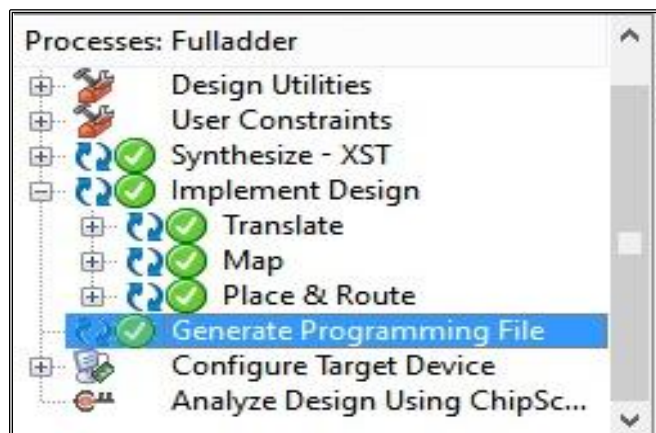

Fig 3.23: Bitstream generation
23. Then we have to generate the programming file. For that, right click **Generate Programming file** and click **Run**. This will generate the bitstream file which will be downloaded to the chip (Fig 3.23).